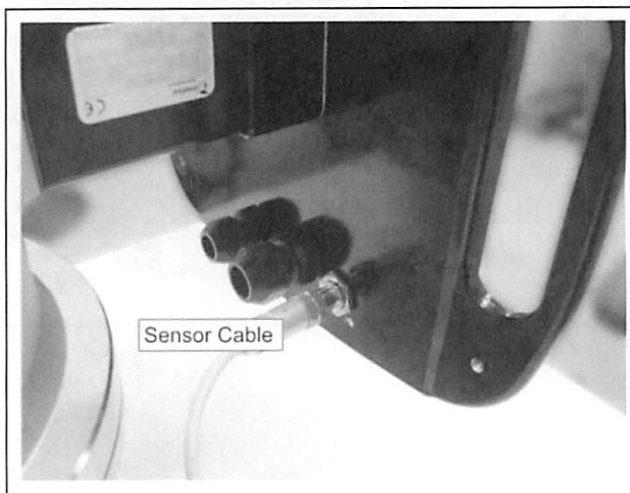

Fig. 13.
- Perform startup according to the instructions in the User Guide (Figure 13).